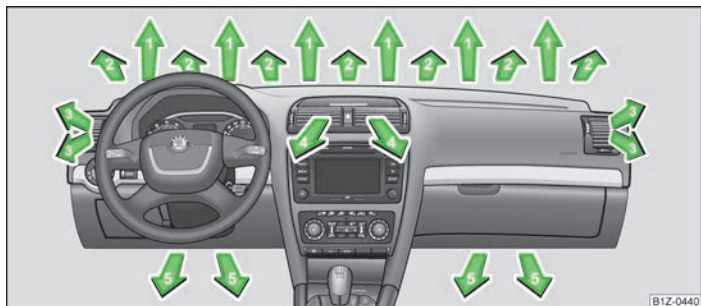
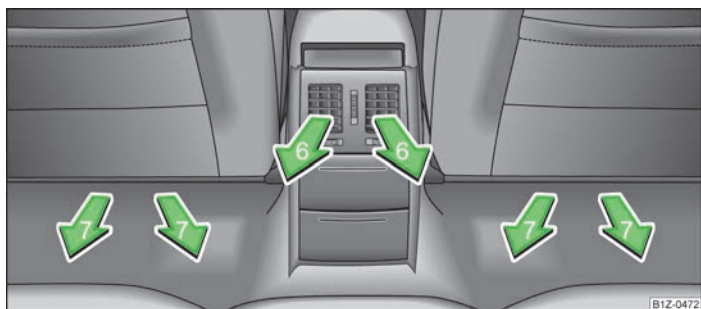

Fig. 86 Air vents at the front
Fig. 87 Air vents at the rear
- Turn the vertical wheel » Fig. 86 (not into the end position).
- Turn the vertical wheel » Fig. 86 into the end position.
- Swivel upward or downward the grille of the vents in order to change the direction of the air flow using the vertically arranged thumbwheel » Fig. 86.
- Turn the horizontal thumbwheel on the vent to the right or left in order to change the air flow to the appropriate side. The thumbwheels are located on the air outlet vents 3, 4 » Fig. 86 and 6 » Fig. 87.
The air outlet vents 3, 4 » Fig. 86 and 6 » Fig. 87 can be closed and opened individually.
The air outlet vents 6 » Fig. 87 are only fitted on vehicles with the higher centre console.
The air outlet vents 2 » Fig. 86 ensure in the ventilation and cooling mode for a comfortable (no-draught) ventilation of the interior of the vehicle, also if the air outlet vents 4 » Fig. 86 are closed.
- Air outlet vents **3** » Fig. 86 on page 80.
- We recommend that you leave the air outlet vents **4** » Fig. 86 on page 80 in the opened position.